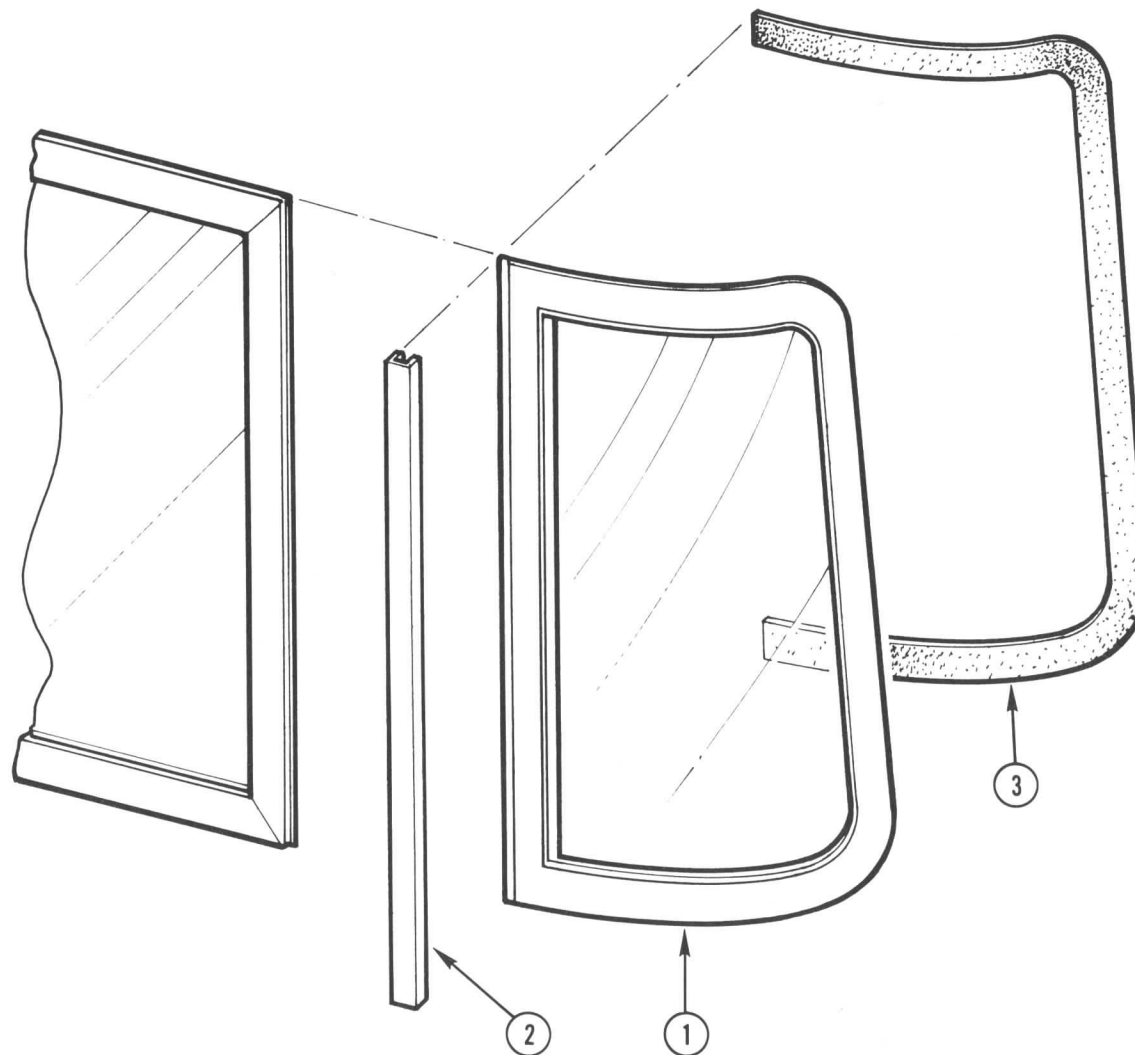

Fig. 9
4. On outside, using No. 30 drill, remove rivets attaching window frame to exterior skin. (Note: On front window, vertical tie bar between front window and wing window must be removed. (See Fig. 9.)
Note: On front window, install new vertical tie bar mating center window to wing window (see Fig. 9).
1. Remove exterior vertical tie bar between ctr. window and wing window (Fig. 9).